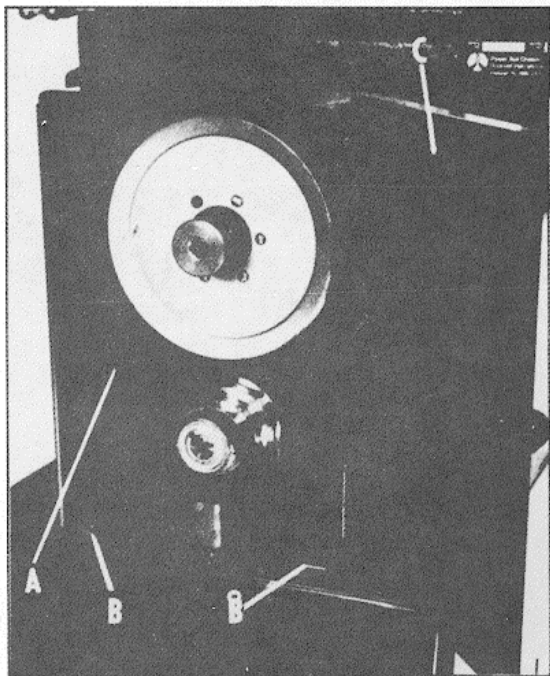

Fig. 9
2. Place the belt and pulley guard (A) Fig. 9, on the top shelf over the belt opening and position the two clamps (B) over the guard flanges and under the top of the stand as shown. Use the four roundhead screws in the bottom of clamps to fasten in place.
3. Replace both V-belts and place door (C) Fig. 9, on hinges. Fig. 9